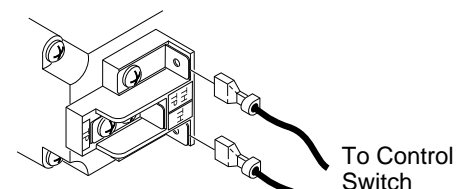

Figure 20 - Control Valve Terminals
5. Connect one wire terminal from ON/OFF switch to the THTP terminal on the valve. Connect remaining wire terminal to the TH terminal on the valve. Make sure that the wire terminals are in the positions on the unit as pictured in Figure 20. If wires are not connected as shown, the ON/OFF switch will not work.